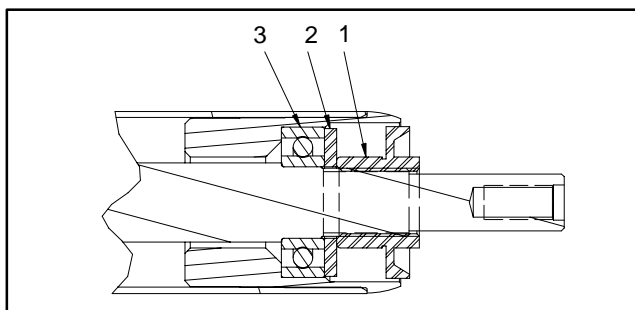

Figure 25
A. Position a new bearing, black assembly washer (see Special Tools) and original lock nut onto each end of the roller shaft (Fig. 25).